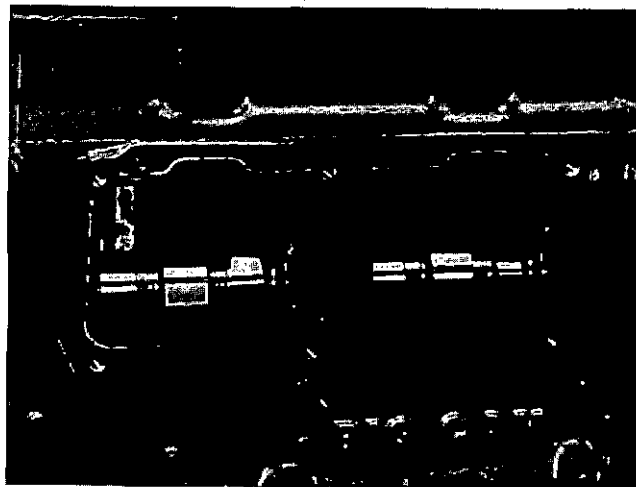

Fig. 14-28 (N114259). Install The "Print-O-Seal" Cam Follower Gasket.
2. The Big Cam engine must have at least one "print-o-seal" gasket with a silicone sealing bead for each cam follower housing. Install the "print-o-seal" gasket so that it is against the cylinder block and the sealing bead is toward the cam follower housing, Fig. 14-28.